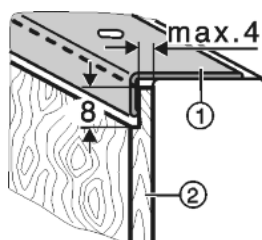

Fig. 38
- Lay thicker décor panels Fig. 38 (2) as shown to a max. thickness of 4 mm.